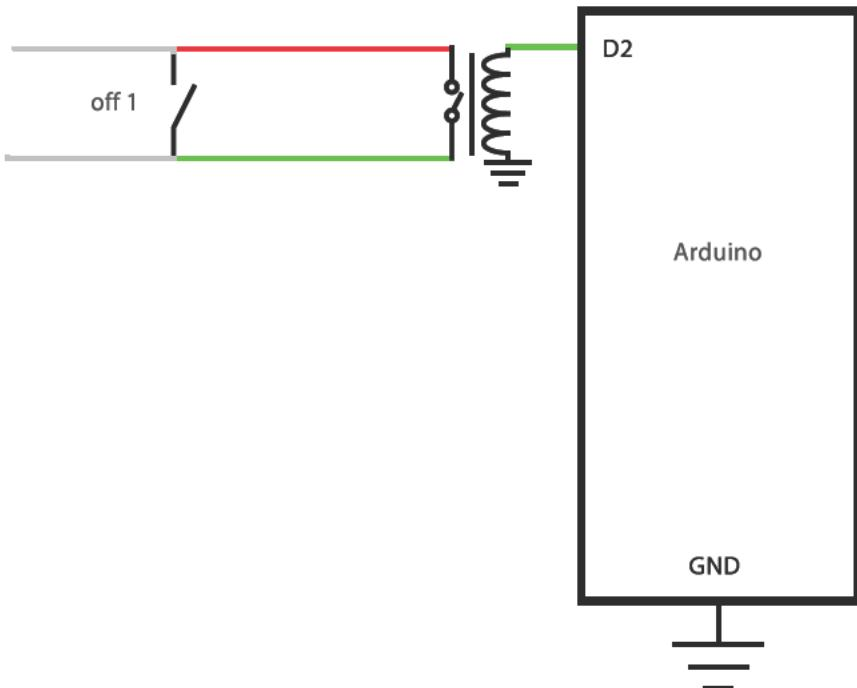

Figure 7-19. Circuit diagram
3. Now, connect the device you want to control to the relay. Locate the off button for the remote control's first outlet, and connect that button's wires to relay pins 7 and 8 (the second from the right and the middle, respectively, in the bottom row). The relay is just a controllable switch and is not polarized, so you can connect the wires either way. Figure 7-19 shows the circuit diagram.